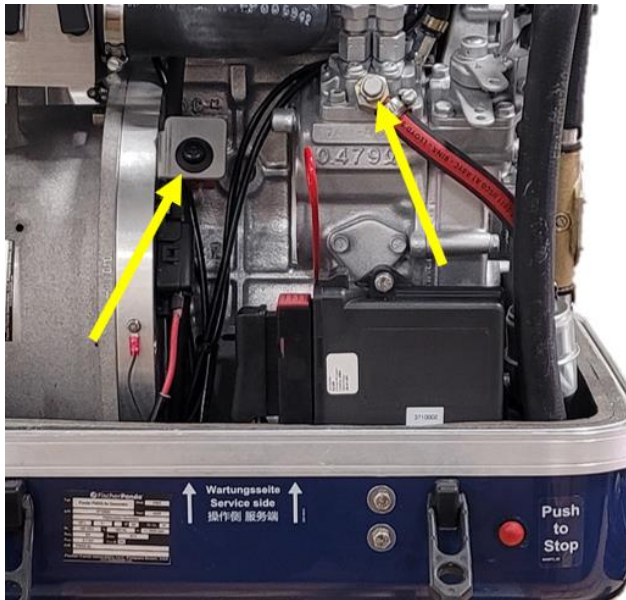

Figure 26: Failure bypass switch.
2. Press the fuel primer button (left arrow in Figure 26) for 3 minutes.
3. Check for air in the fuel by opening the fuel bleeder screw (right arrow in Figure 26) at the injection pump while pressing the fuel primer button.